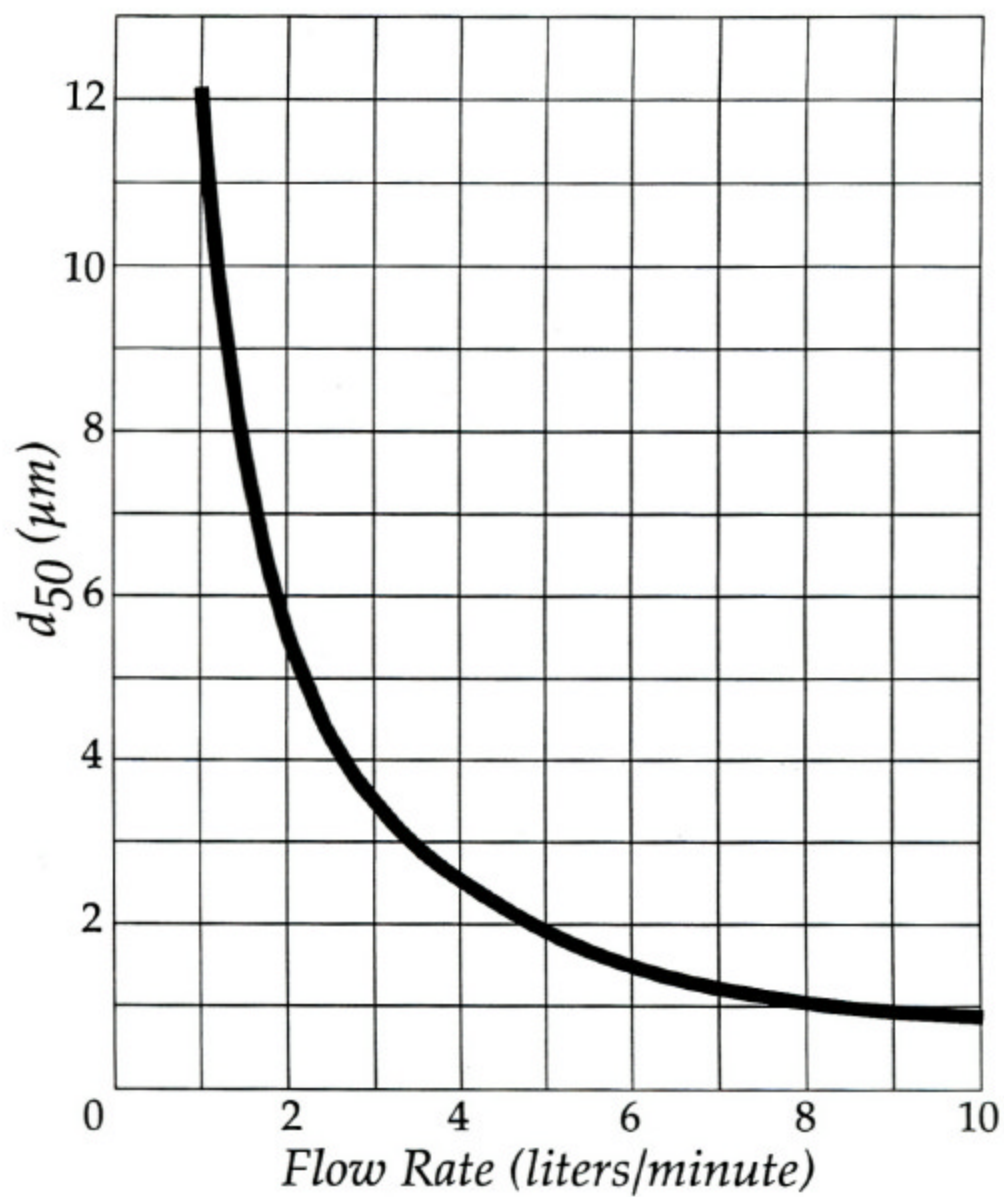

Figure 7. GK 2.05 Cyclone Cut Point (d_{50}) as a Function of Flow Rate
The *pDR-1200* can be used to monitor a specific particle size fraction below a selectable cut off equivalent aerodynamic diameter. The particle size cut point can be selected by adjustment of the sampling flow rate. The higher this flow rate through the cyclone the smaller the cut off particle diameter. Figure 7 is a graph showing the dependence of the particle cut off size in micrometers as a function of the sampling flow rate in liters per minute. The cut off size is the particle aerodynamic diameter at which the collection efficiency of the cyclone is 50%, or conversely, the size at which the cyclone transmission is 50%. For example, to obtain a particle size cut off of 2.5 μm (i.e., $\text{PM}_{2.5}$), the required sampling flow rate is 4 liters/minute. At that flow rate only particles smaller than (approximately) 2.5 μm are allowed to pass into the *pDR-1200* sensing stage, to be monitored and then to be collected on the filter.
As can be seen on Fig. 7, the lowest particle size cut for the GK 2.05 cyclone included with the *pDR-1200* is about 1 μm , and the largest is about 12 μm . For particle size classification outside this range, consult with the factory.
One simple procedure to determine the median particle size is as follows (please refer to the graph of Fig. 7):
- Enter the final flow rate for which the TWA value is one-half of the initial value into the graph of Fig. 7 and read the corresponding d₅₀ particle size in micrometers. This represents the mass median particle diameter of the aerosol.
For example, if the TWA value without the cyclone was 0.8 mg / m³, and the flow rate (with the cyclone attached) required to reduce the TWA to 0.4 mg / m³ is 2 liters / minute, the mass median particle size (as obtained from the curve of Fig. 7) is approximately 5.5 µm.